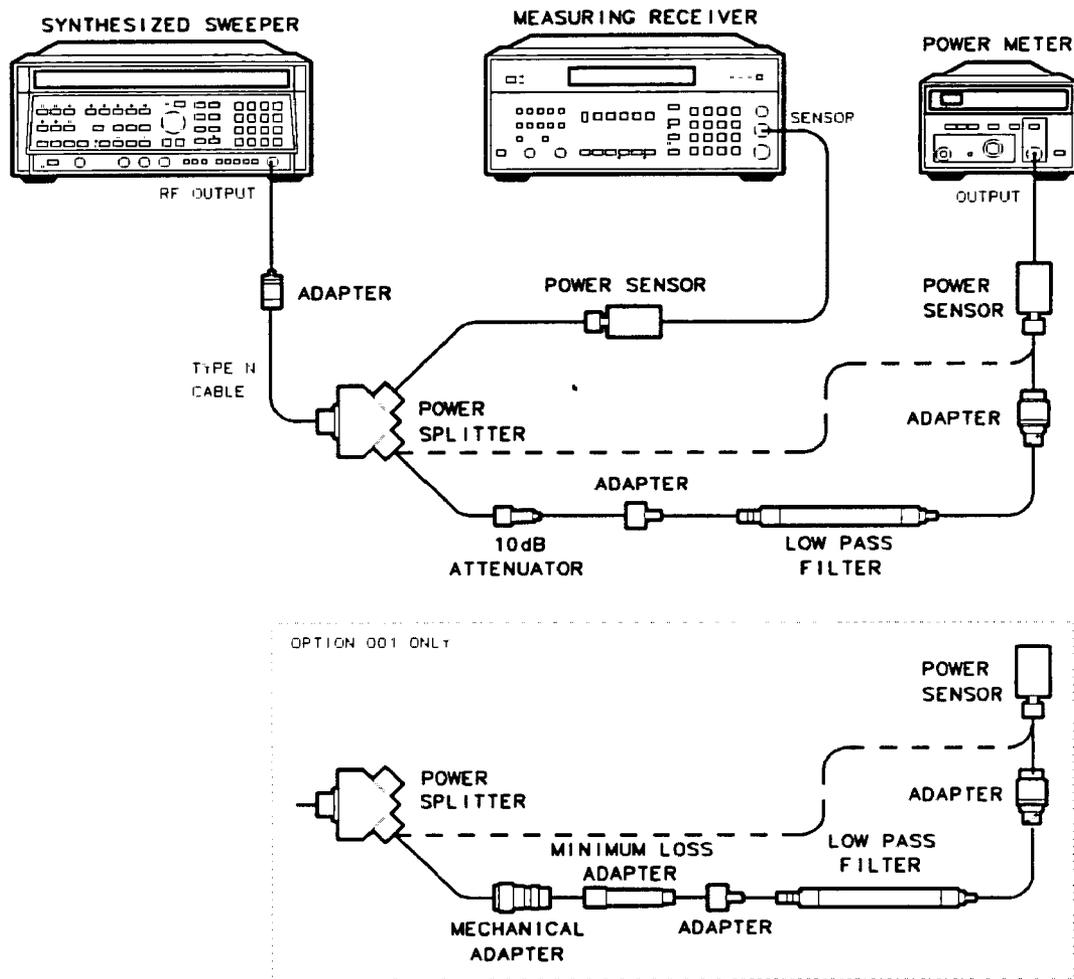

Figure 3-11. LPF Characterization
4. Connect the equipment as shown in Figure 3-11. Connect the HP 8484A directly to the power splitter (bypass the LPF, attenuator and adapters).
7. Connect the LPF, attenuator and adapters as shown in Figure 3-11.